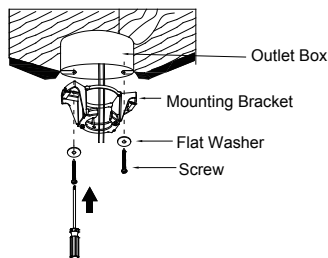

Fig. 4
**Step 1.** Assemble the mounting bracket to ceiling outlet box using the screws and washers supplied with the outlet box. (Fig. 4)